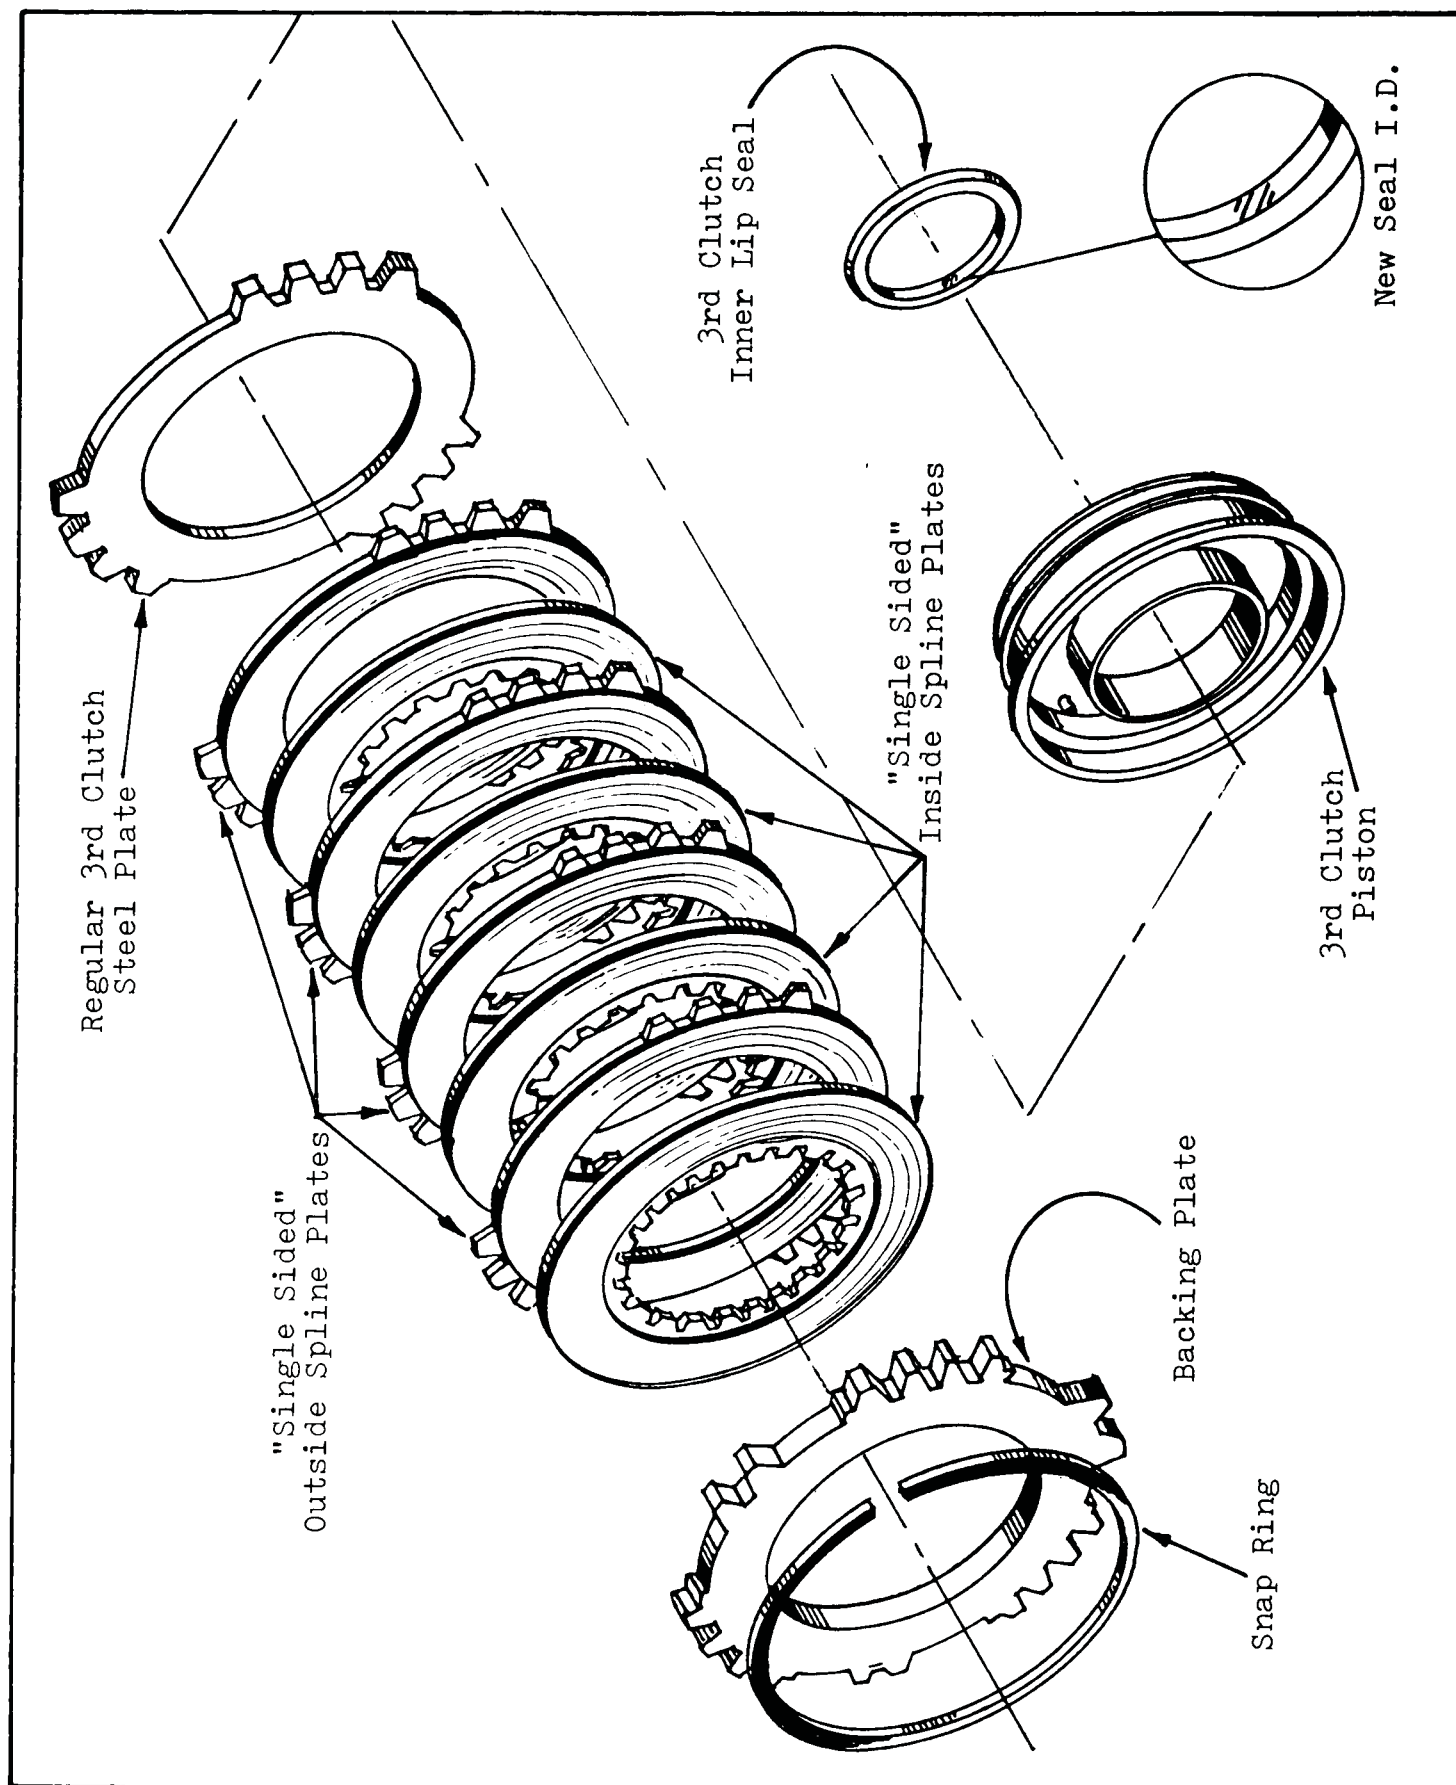
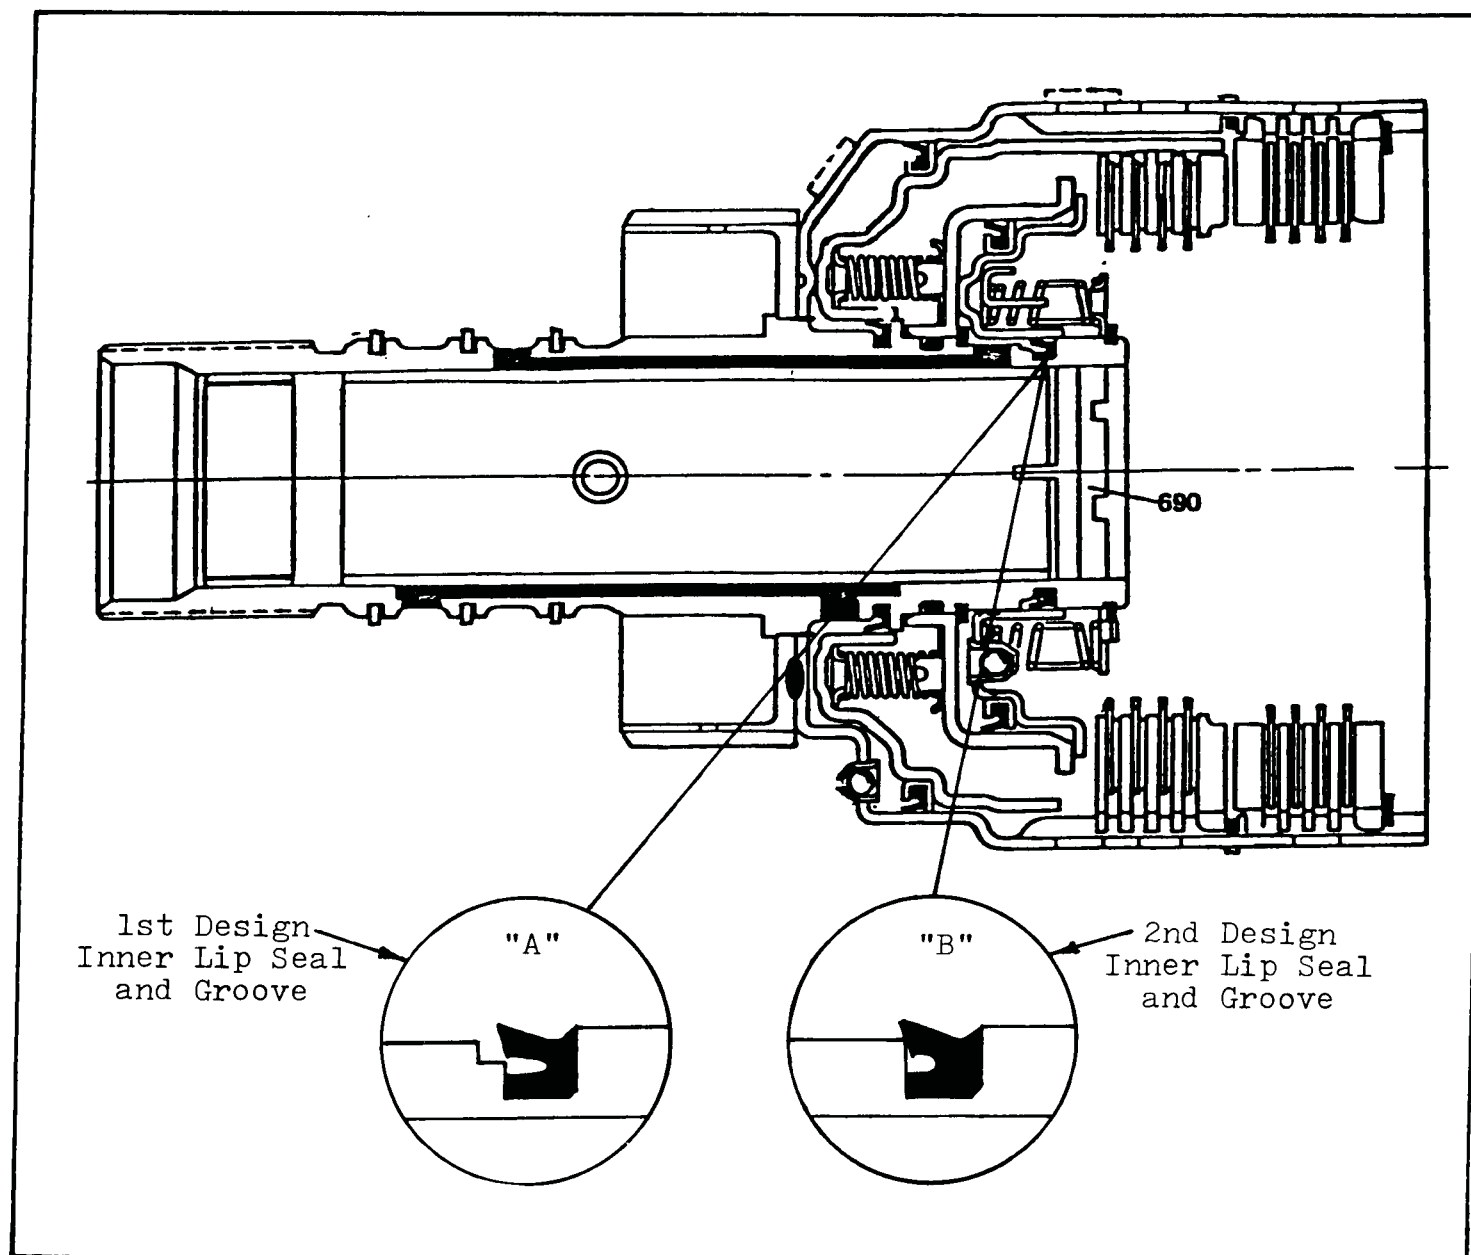

Figure 51
Figure 52
1st Change: Single Sided 3rd Clutch Plates - Lining on one side only both inside and outside spline plates (See Figure 51).
- 1) 3rd Clutch Inner Lip Seal - Thicker profile to help prevent seal from rolling (See Inset, Figure 52).
Will retro fit backwards, and is recommended. New OEM Part No. is 8662673 on the new 3rd clutch lip seal. For positive identification of the new seal, check for hash marks on inside diameter of lip seal (See Inset, Figure 51). For difference in profile compare Inset "A" and "B" in Figure 52.
3rd Change: Input/3rd Clutch Housing - Revised 3rd Clutch Inner Lip Seal Groove (See Figure 52)
(Compare Inset "A" and "B", Figure 52).